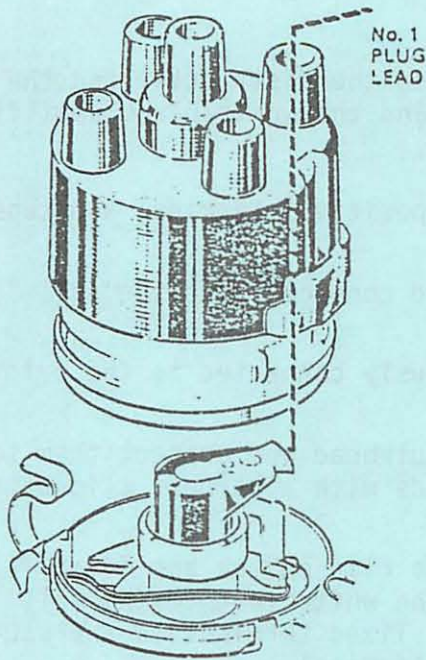

Fig. 1 Rotor arm alignment
4. Remove distributor cap and note the position of the distributor body. Rotor arm should also line up with No. 1 spark plug lead (Figure 1).